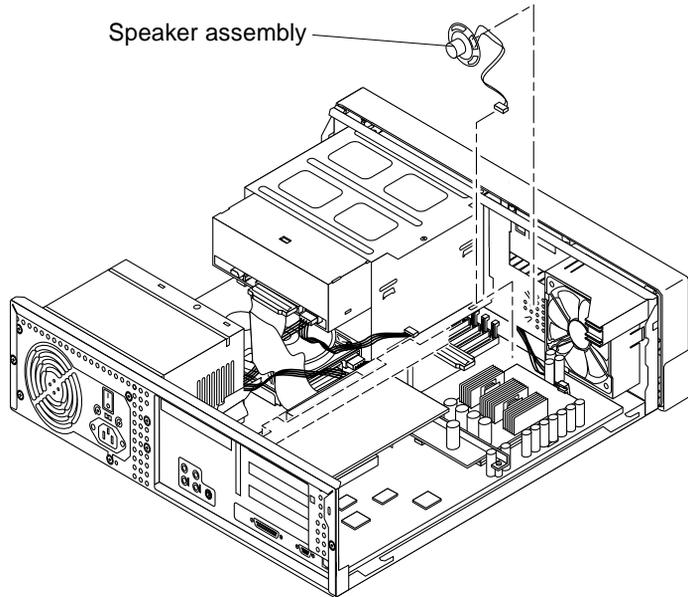

FIGURE 8-11 Removing and Replacing the Speaker Assembly (Ultra 5)
5. **Remove the speaker assembly from the Ultra 5 as follows (FIGURE 8-11):**
2. **Replace the speaker assembly into the Ultra 5 as follows (FIGURE 8-11):**